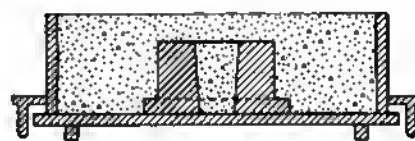

FIG. 97.
6. Fill, ram to the top, and strike off (Fig. 97).